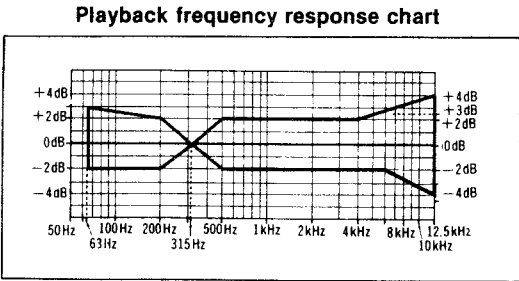

Fig. 10
5. Make sure that the measured values are within the range specified in the frequency response chart. (Shown in fig. 10).